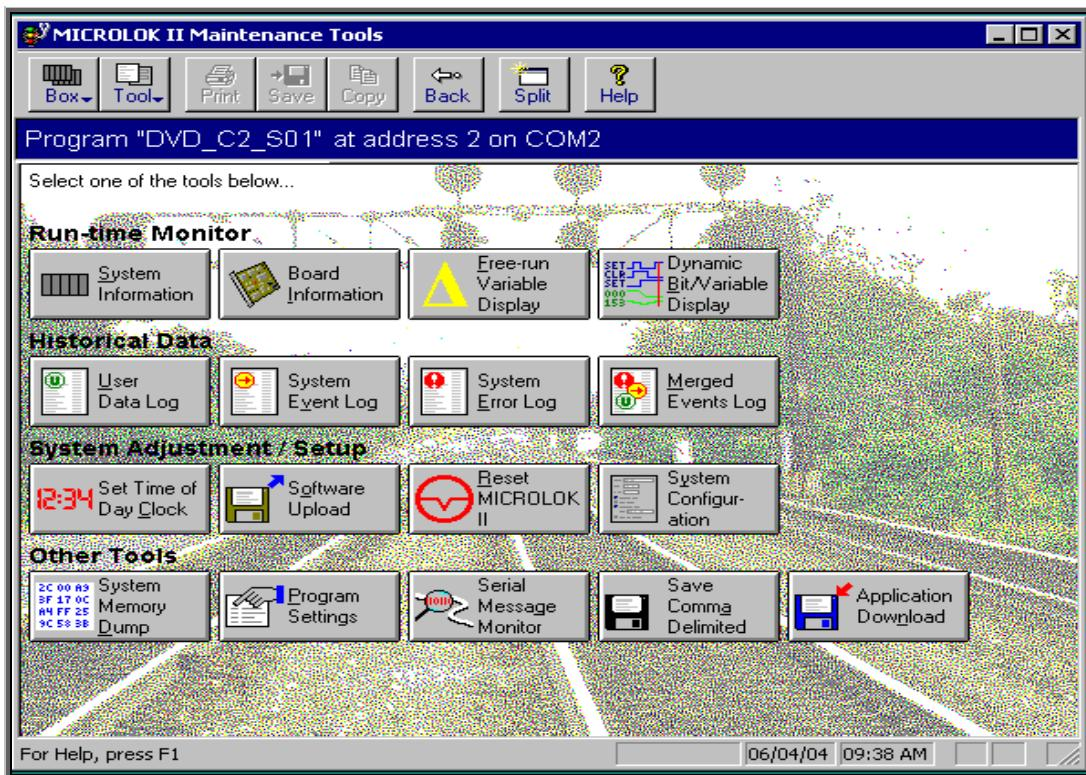

Figure-5.9.1
- ❖ Maintenance Tools main menu with old program file name appears (Figure-5.9.1).